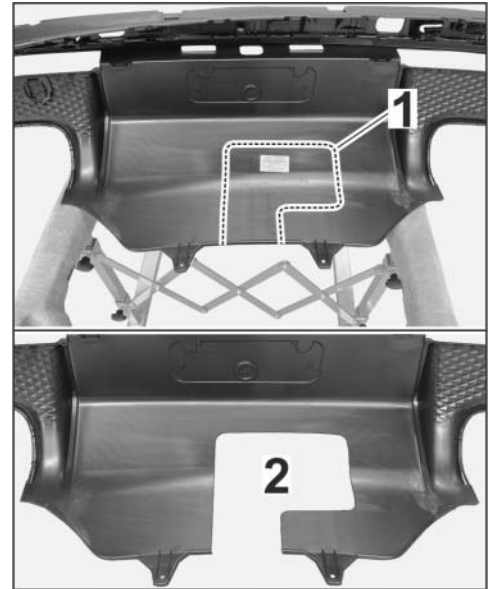

Figure 22
- 4.1.2 Mark the cut-out for the trailer hitch along the impression (\Rightarrow *Figure 22 -1-*) on the inside of the rear panel so that it is clearly visible using a pen.
- 4.1.3 Carefully make the cut-out using a drill and saw along the marking (\Rightarrow *Figure 22*).